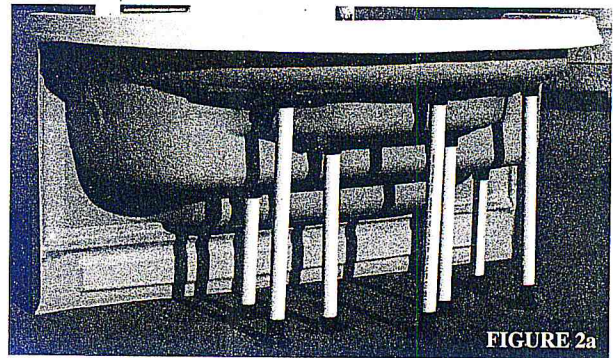
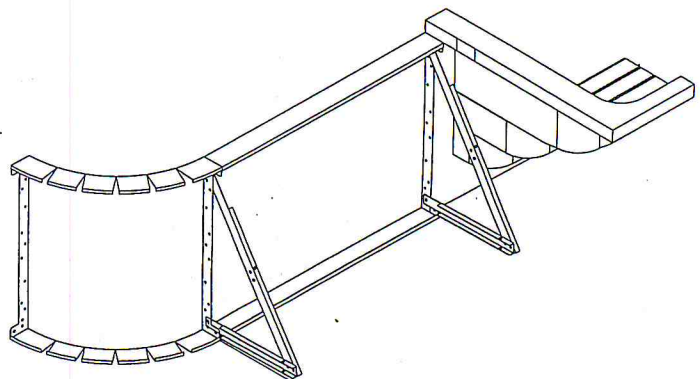
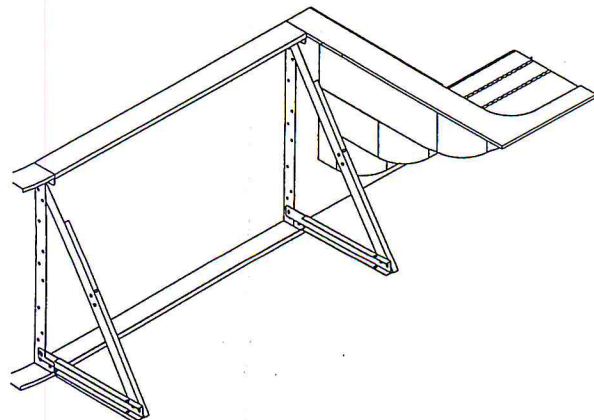

FIGURE 2a
FIGURE 3. - Wall/Step Assembly - Standard Coping Application
FIGURE 4. - Wall/Step Assembly - Cantilever Application
5. Lift the assembled unit and rotate it onto the leveling legs while moving it into position between intended adjacent pool wall panels. (Figure 2a) and (Figure 3).
6. Plumb the face of the unit while positioning its face flush with the face (do not align with the gasket) of the adjacent pool wall panels. In addition, the top of the unit must be flush with the top of the panel Fig. 4 (Cantilever) and consideration given to coping application (Fig. 3). Level step, by using adjustable foot pads.